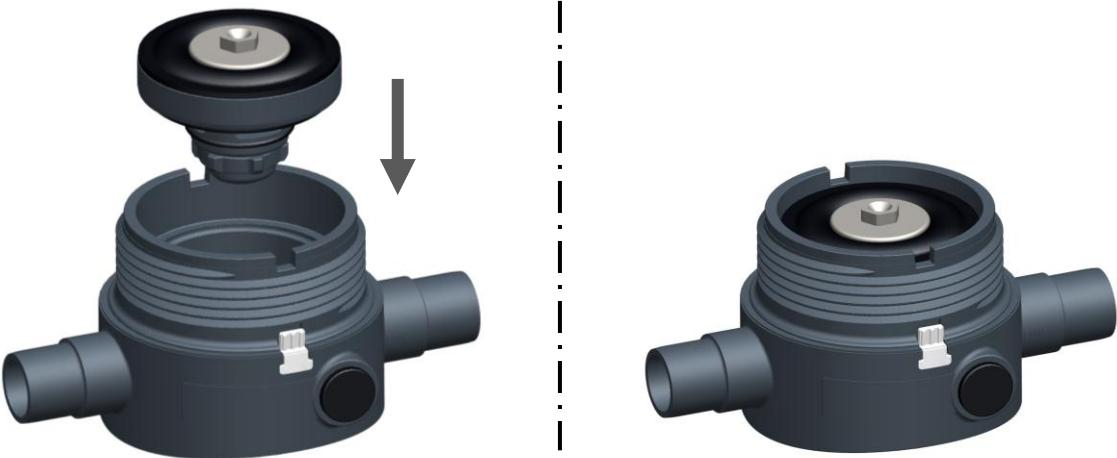

Fig. 12
► Position the cartridge in the base part and push in, see Fig. 12